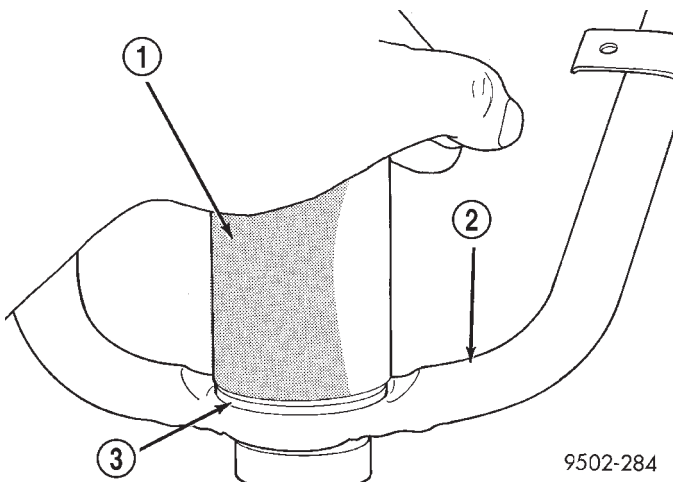

Fig. 56 Ball Joint Seal Boot Installation
(5) Position Receiving Cup, Special Tool 6758 over sealing boot so it is aligned properly with bottom edge of sealing boot (Fig. 56). Apply pressure **BY HAND** to special tool 6758, until sealing boot is pressed squarely against surface of control arm.